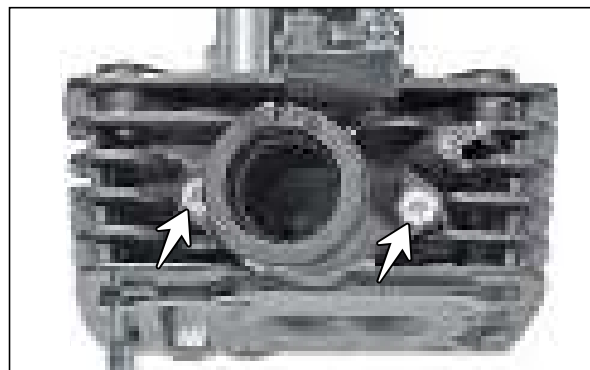

Fig. 3.49
- Remove the REC CSK head screw (M6x16 - 2 Nos.) from the pipe intake complete mounting and take out the pipe intake along with a 'O' ring. (Fig. 3.49)